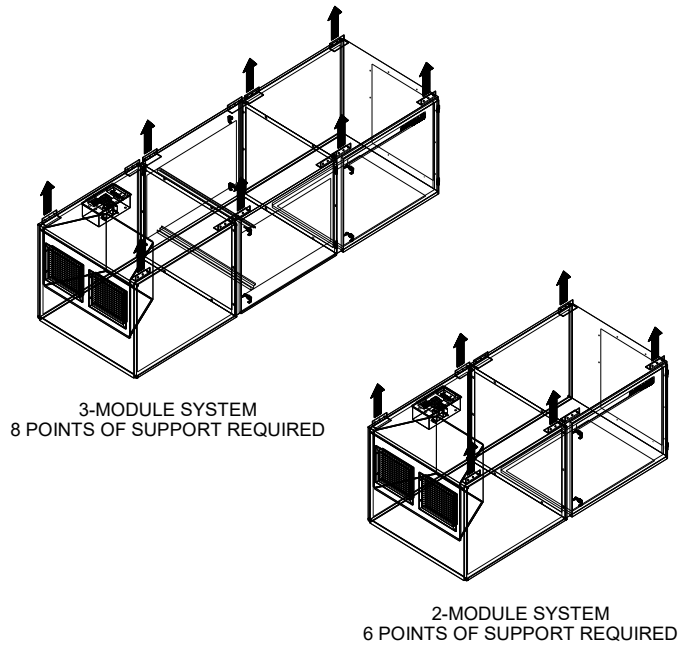
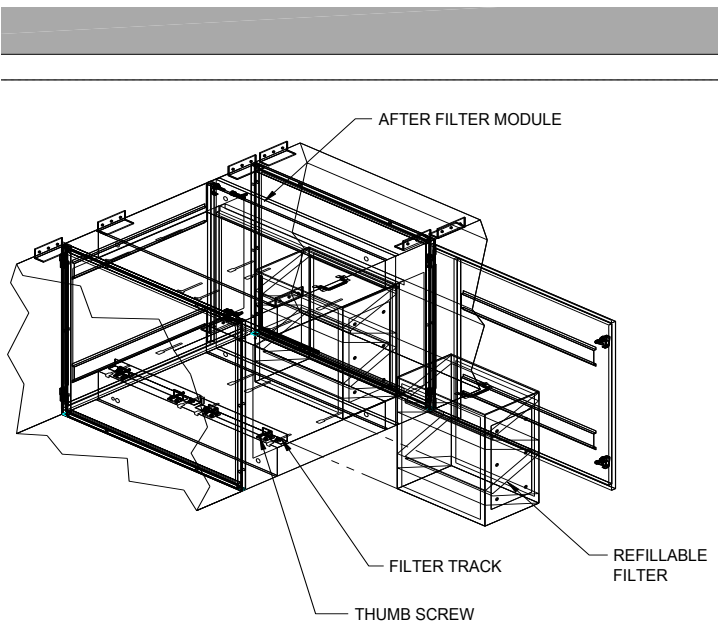

FIGURE 1
FIGURE 8
3. Support the unit at each end and where modules are coupled together (see **Figure 1**).
1. The MC 3000 is offered with an additional filter module that can hold up to four (4) 20" X 24" X 12" filters. The After Filter Module is pre-assembled to the MC 3000, between the Filter Module And Blower Module (see **Figure 1**).
3. To remove filters from the After Filter Module, open the filter access door, thereby gaining access to filters. Loosen the eight (8) thumb screws that hold the filter tracks allowing the filters to slide freely, and pull filters out of Filter Module.
4. Refillable charcoal filters are shipped with charcoal separate. To fill charcoal filter, remove the charcoal filter cover (retained with six (6) screws) thereby exposing the filter slots. Carefully pour charcoal (or activated alumina) into the filter slots and reassemble charcoal filter cover to the charcoal filter (see **Figure 8**).